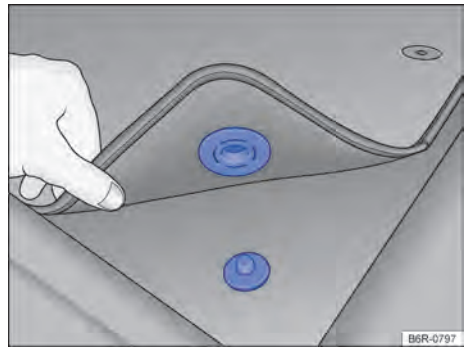

Fig. 20 Driver side mat attached to the floor pin.
- ✓ The floor mat in the footwell on the driver side must be securely fastened to ensure the pedal area is unobstructed. The driver side mat might be attached to the floor pin → Fig. 20.